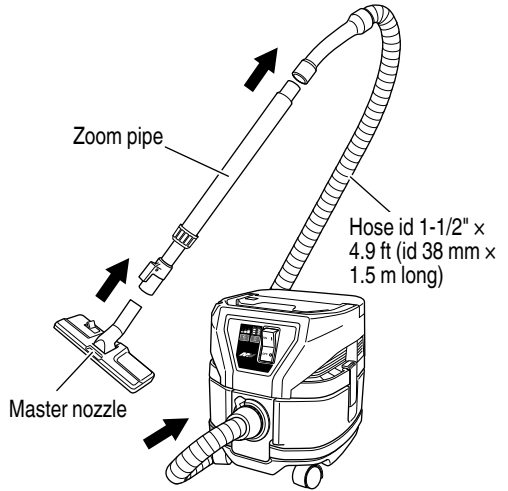

Fig. 16
3. Attach the zoom pipe, master nozzles, etc. When it is used as a cleaner (Fig. 16)